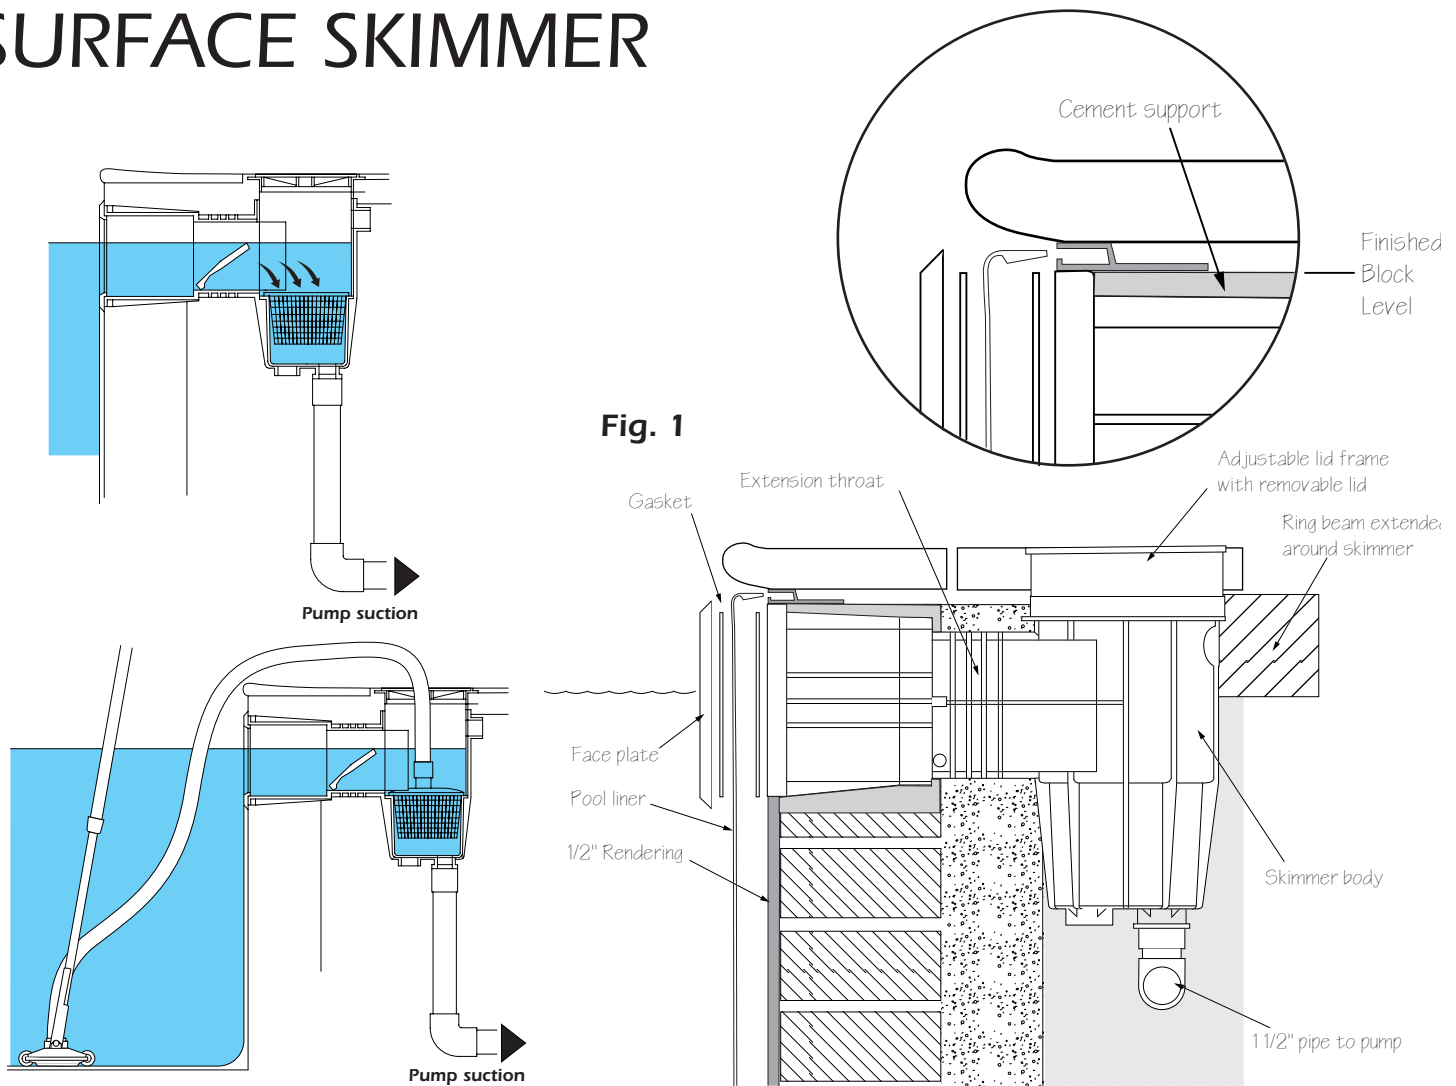

Fig. 1
- d.** Install the skimmer 25mm (1") down from the top of the pool wall on the seventh course of blocks (As shown in Fig1 above). Make sure it is laid on a bed of cement with the front plate of the throat projecting 12.5mm (1/2in) from the wall to again allow for the thickness of the rendering